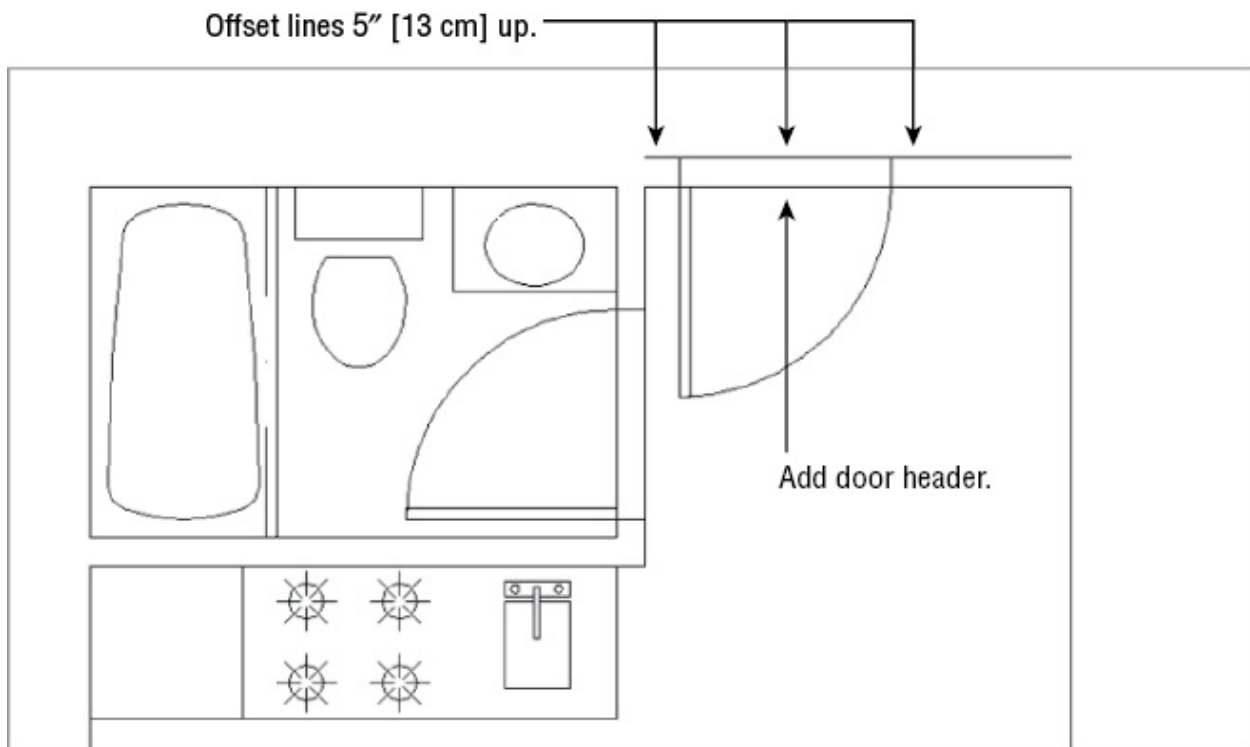

FIGURE 6.25 The other side of the wall
5. Draw the door header on the Ceiling layer, as shown in Figure 6.25.
6. Click Offset on the Modify panel, and offset the top wall lines of the unit and the door header up 5" (13 cm for metric users) so that they connect with the top end of the doorjamb, as shown in Figure 6.25. Remember to include the short wall line from the door to the bathroom wall.